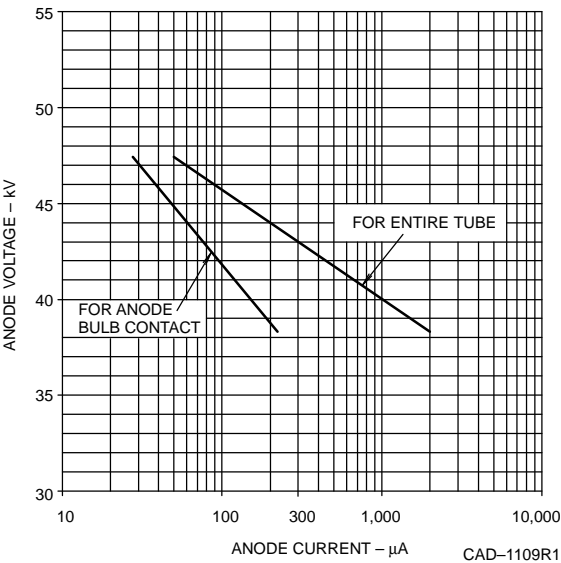
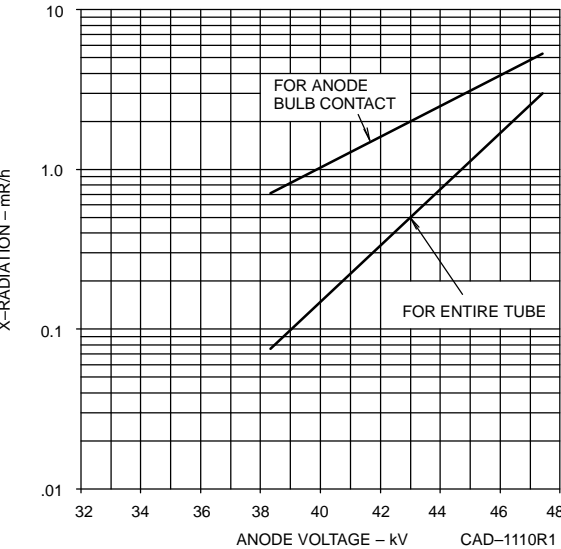

Figure 5 - 0.5mR/h Isoexposure-Rate Limit Curves
Figure 6 - X-radiation Limit Curves at a Constant Anode Current of 300 μ A (x-radiation at a constant anode voltage varies linearly with anode current)
The x-radiation emitted from this picture tube will not exceed 0.5 mR/h for anode voltage and current combinations given by the isoexposure-rate limit curves as shown in **Figure 5**. Operation above the values shown by the curves may result in failure of the television receiver to comply with the Federal Performance Standard for Television Receivers, Part 1020 of Code of Federal Regulations, Title 21, Chapter I, Subchapter J. Maximum x-radiation as a function of anode voltage at 300 μ A anode current is shown by the curves in **Figure 6**. X-radiation at a constant anode voltage varies linearly with anode current.
*This rating applies only if the anode connector used by the receiver manufacturer provides the necessary attenuation to reduce the x-radiation from the anode bulb contact by a factor equivalent to the difference between the anode bulb contact isoexposure-rate limit curve (**Figure 5**) and the isoexposure-rate limit curve for the entire tube.
Operation of this color picture tube at abnormal conditions which exceed the 0.5 mR/h isoexposure-rate limit curves shown in **Figure 5** may produce soft X rays and may constitute a health hazard by prolonged exposure at close range unless adequate external x-radiation shielding is provided. Therefore, precautions must be exercised during servicing of TV receivers employing this tube to assure that the anode voltage and other tube voltages are adjusted to the recommended values so that the Absolute-Maximum Ratings will not be exceeded.